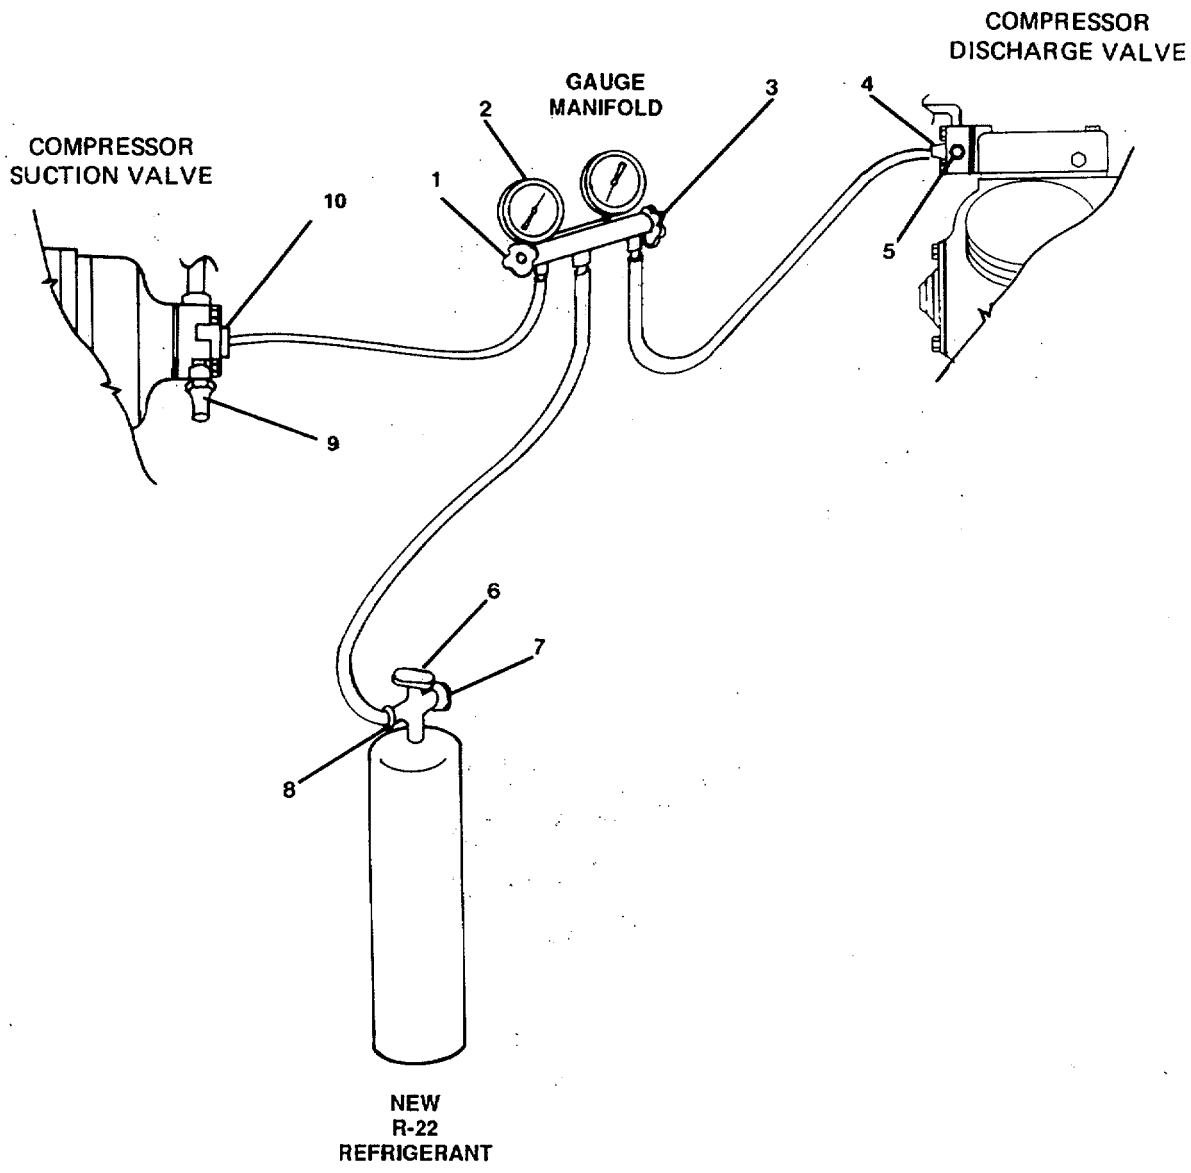

FIGURE 4-24. *Adding Refrigerant to Compressor.*
- (11) Connect the common hoseline on the gauge manifold to valve connection (8, FIGURE 4-24) on a R-22 refrigerant container (7).
- (12) Purge hoselines.
- (13) Open gauge port handwheels (1) and (3) counterclockwise one-half to one turn.
- (14) Slowly open the valve (6) on the refrigerant container (7). A hissing sound can be heard as refrigerant passes from container to compressor.
- (15) When hissing sound has stopped, close gauge port handwheels (1) and (3) fully clockwise.
- (21) Add additional R-22 refrigerant, by first opening the valve (6, FIGURE 4-24) on refrigerant container (7); then slowly opening gauge port handwheel (1) on the gauge manifold counterclockwise one-half to one turn. When operating pressures are within normal range, close gauge port handwheel.